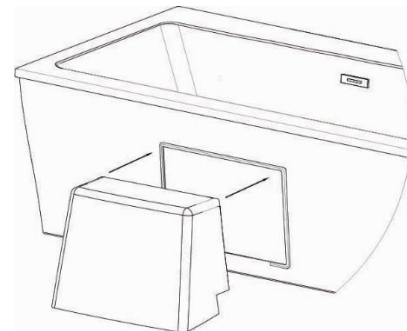

Figure 10
5. Align the cabinet with the opening and slide the cabinet into the opening until it is flush against the bottom of the freestanding skirt. **See Figure 10**